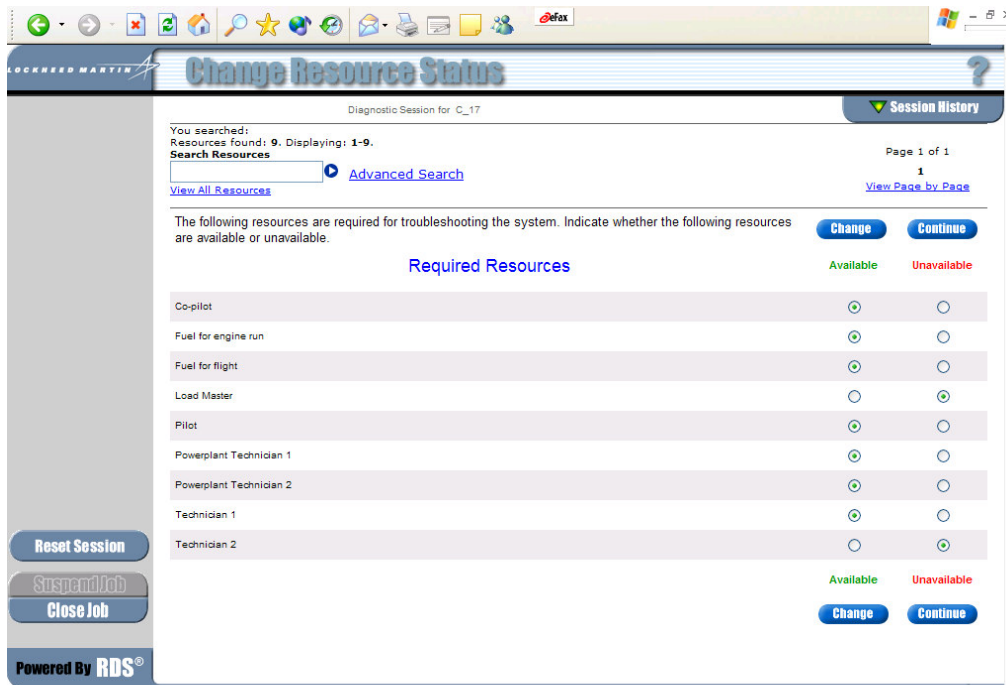

Figure 2: Tech selects what resources or tools available
- Scenario where certain tools or resources are needed to resolve the problem but not all of them are available:** This is a very real scenario. In many cases the technician may need a DVM, an Oscilloscope, Jumpers, Gages, etc. to troubleshoot the problem. Data based systems were not designed to deal efficiently with such scenarios. The stored resolutions are based on the tools that were available to the technician at that time. However, what would a technician do if one or more of the necessary resources (tools, testers, etc.) are not available? The troubleshooting would have to resort to an ad hoc process. Again, one may argue that it is possible to store cases for every possible resource combination. This may be true, but again not practical. (By the way, we have yet to encounter anyone who is willing to make these arguments on any logical/technical basis). If you need 4 tools you will have to store 15 combinations, etc... etc..... With TEAMS, the issue is resolved very nicely. After the technician selects the list of symptoms and/or error codes he/she will be prompted with a form that lists the tools and resources that may be necessary during the course of the troubleshooting session. The technician can indicate that specific resources are not available. Subsequently, the TEAMS algorithms will automatically generate a most optimal maintenance procedure that avoids any steps or tests that require those “unavailable” resources. Figure 2 shows this form.